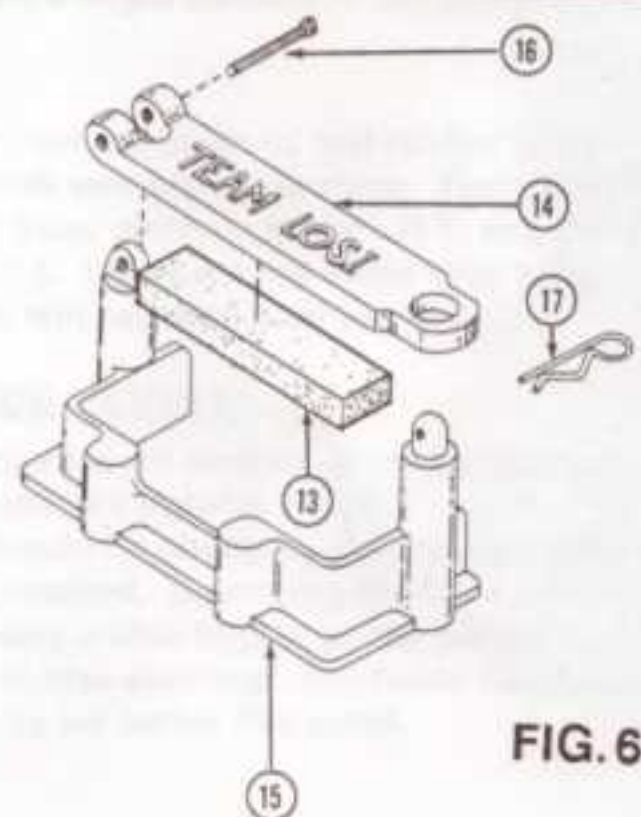

FIG. 6
8. Peel off backing from battery box foam (13) and apply to recess in bottom of battery box lid (14). Fig. 6.
9. Secure battery box lid (14) to battery box (15) using a 4-40 x 1/2" socket head screw (16) as shown. Fig. 6.
* NOTE: Thread screw (16) in through chamfered end of hole in battery box lid (14).
10. Secure lid (14) with body clip (17). Fig. 6.